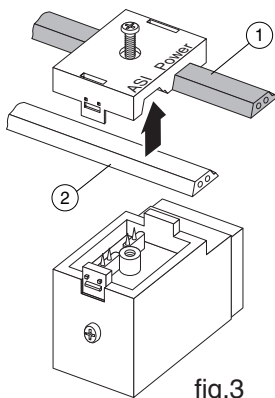
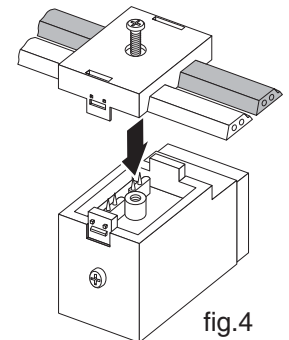

fig.3
fig.4
- Place the cables in the cover grooves (Fig.3) in accordance with the engraved markings on the top.
- black cable ① under "POWER"
- yellow cable ② under "ASinterface".
- Reinstall the cover on the connector (Fig.4), orientating it correctly (side lugs with different widths).